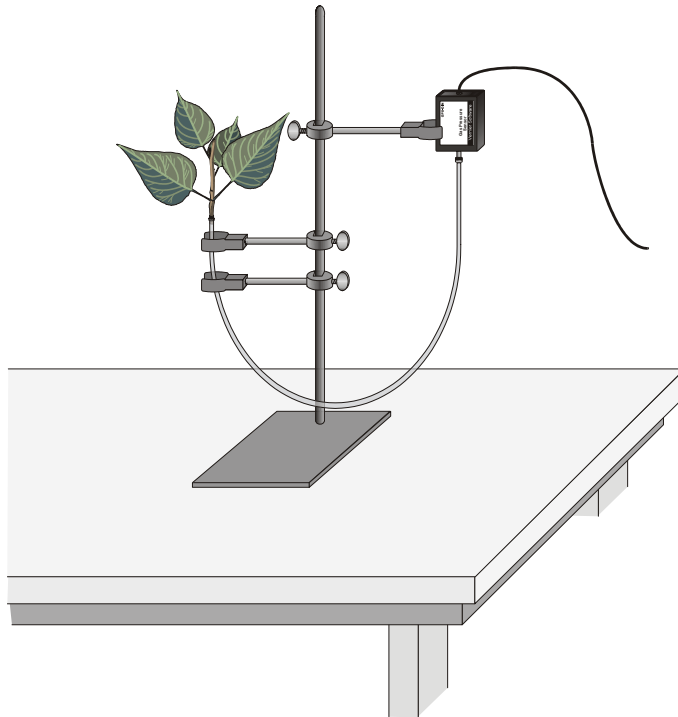

Figure 1
1. Position the ring stand, utility clamps, and Gas Pressure Sensor as shown in Figure 1.
9. Secure the plant in an upright position with the utility clamps as shown in Figure 1. It should be positioned so that the cut stem is about 8 cm below the water level at the other end of the tubing, as shown in Figure 1.